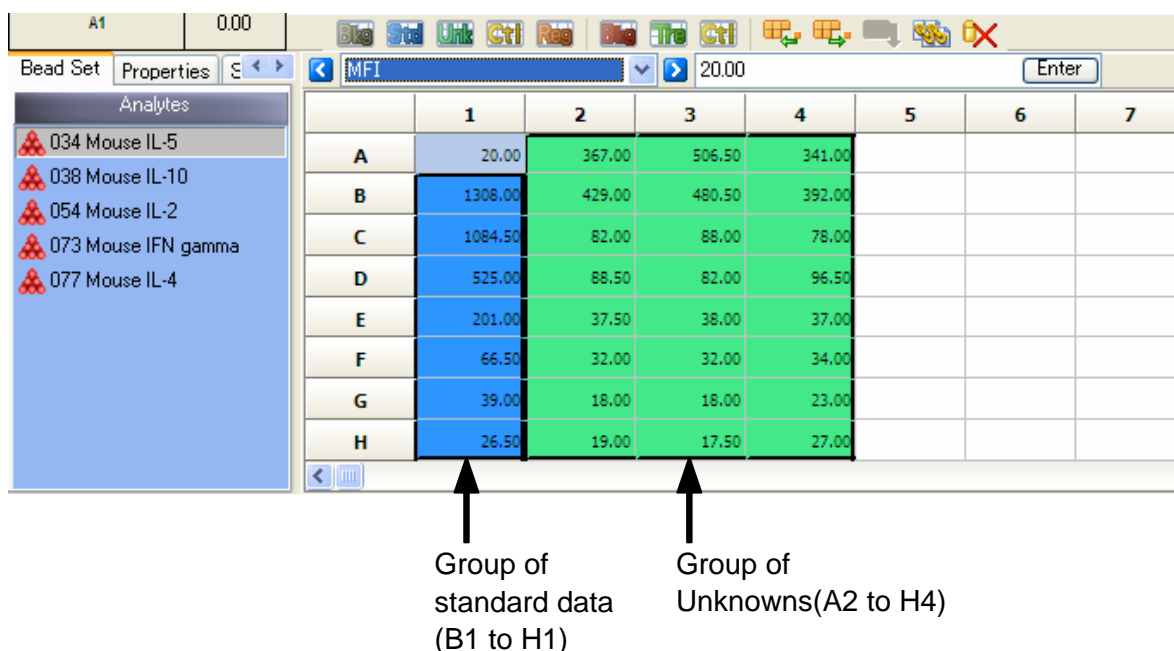

Figure 4.5 Well groups
- ⇒ A border appears around the grouped wells (Figure 4.5).
3. To display the well grouping (Figure 4.5), click a well.